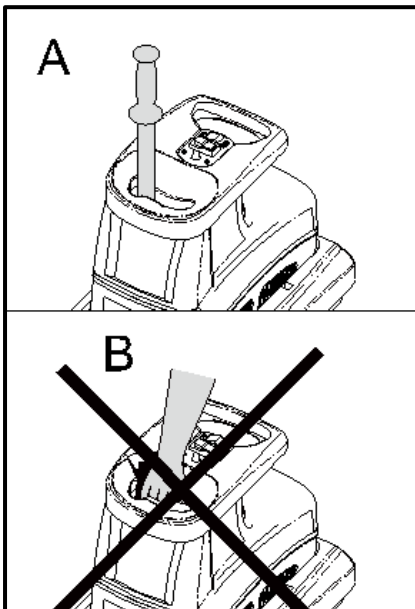

Fig.19
**Warning!** Always use the push rod if you try to push the material into the feed intake opening. Never let your hands enter the feed intake opening. (Fig.19) Never use this appliance if the top hopper is not fitted. Do not overreach. Keep the push rod well after use.